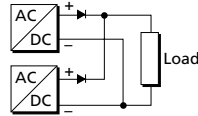

Figure. 1
2. In some applications it is required to have each supply capable of delivering 100% of the load current (parallel redundant). In this case the units should be connected as shown in Fig 1.